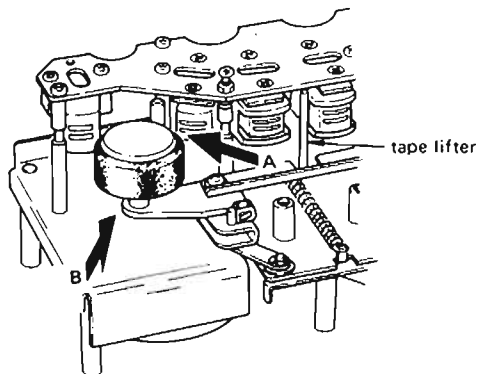
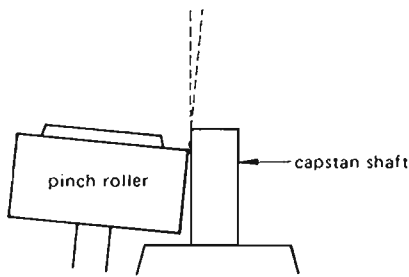

Fig. 2-15 Directions for pinch roller parallelism check
Fig. 2-16 View in direction A (example of non-parallelism)
- (1) Use the jig as near as possible to the pinch roller spindle.
- (2) Do not touch the surface of spindle.
- (3) Use no other tool for this adjustment!
4. Remove pinch roller, then push up tape lifter to visually align pinch roller spindle with the capstan shaft viewed from direction of arrow B in Fig. 2-15.
1. Let pinch roller draw near toward capstan shaft by manually lifting up tape lifter shown in Fig. 2-15.
2. Check pinch roller/capstan shaft parallelism viewed from direction of arrow A shown in Fig. 2-15. Refer to Fig. 2-16.